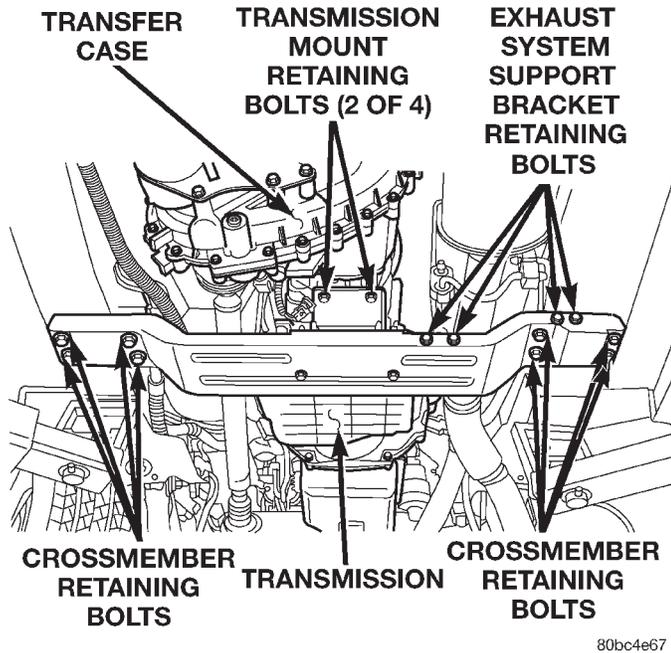

Fig. 7 Transmission Support Crossmember Position & Orientation
(4) Using the jack, raise the transmission assembly into position and install the (8) transmission support crossmember retaining bolts (Fig. 7). Torque the bolts to 41 N·m (30 ft. lbs.).